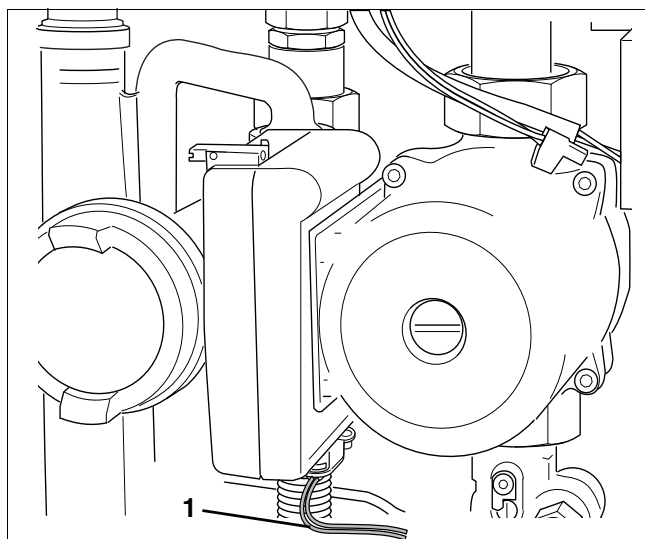

fig. 14 Connecting the pump
- Connect the main power cable connector (fig. 14, [1]) to the pump using an approved cable (not supplied).